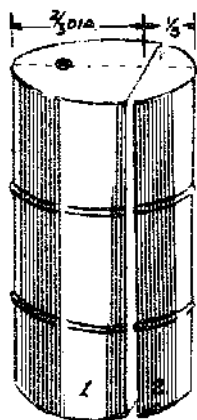

FIGURE 4 INVERT SECTION 2 IN SECTION 1 ATTACH CUT EDGES TOGETHER. CUT HOLE FOR STEAM ESCAPE.
- o Dry the blocks in a 90-100°C (194-212°F) oven or double boiler to remove all moisture (see Figures 4 and 5).